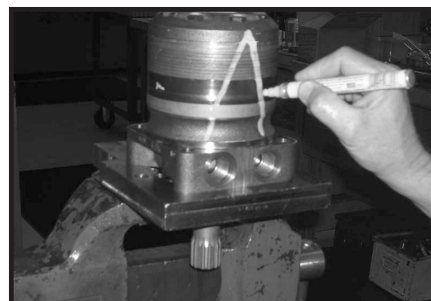

Figure 2
2. Scribe an alignment mark down and across the Torqmotor™ components from end cover (2) to housing (18) to facilitate reassembly orientation where required. Loosen two shuttle or relief valve plugs (21) for disassembly later if included in end cover. 3/16 or 3/8 inch Allen wrench or 1 inch hex socket required. SEE FIGURES 2 & 3.